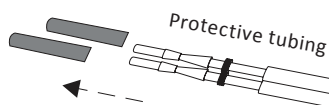

Figure 4-4
- Once the harness has been routed through the vehicle, remove the protective cover from the pin. **See Figure 4-4.**